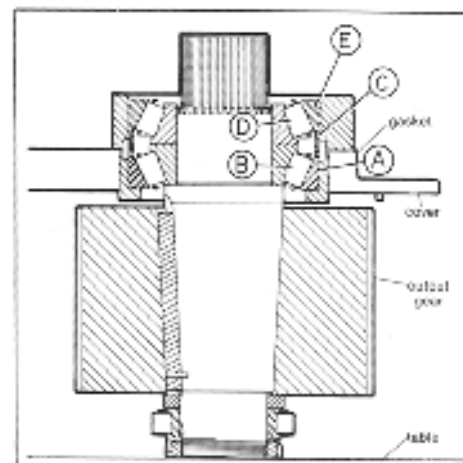

Fig. 35. Sequence of Assembly: Output Bearings.
CAUTION: DO NOT ATTEMPT TO ASSEMBLE OUTPUT GEAR PARTS IN HOUSING. CREATE THE ASSEMBLY SHOWN IN FIGURE 35 BEFORE INSTALLATION IN HOUSING.
8. (HP-9400 only) see fig.35. Locate new bearing container gasket on cover and install bearing container in cover bore.
10. See figure 35. Tap bearing cup (A) evenly into cover bore (HP 10500) or bearing container (HP-9400) make sure cup seats properly.